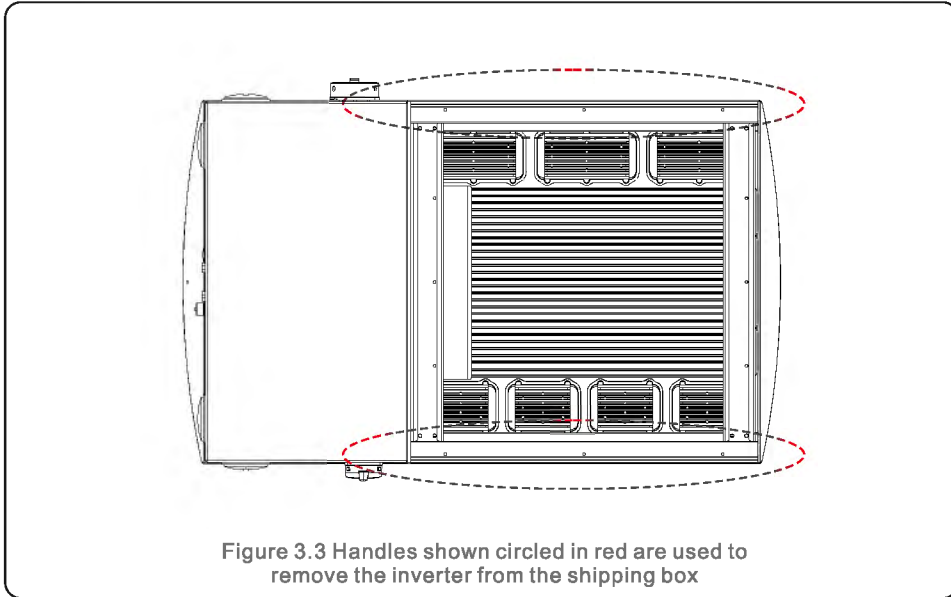

Figure 3.3 Handles shown circled in red are used to remove the inverter from the shipping box
- 2). Two people are required to remove the inverter from the shipping box. Use the handles integrated into the heat sink to remove the inverter from the box (see Figure 3.3).